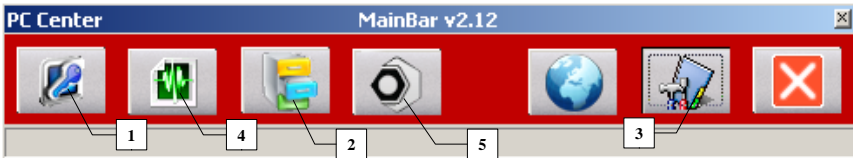

Figure 4.1
All applications are started very easily from the application bar MainBar (Figure 4.1) which appears when the PC Center program is started.
You can choose from two preset webpages - [www.workshopdata.com](http://www.workshopdata.com) - (1) and [www.autodata-online.net](http://www.autodata-online.net) (2). You can also set any webpage of your choice by clicking the Custom item and filling in the first window; or a program by filling in the path to it in the second one. Any changes must be confirmed by clicking the Save button. The button (5) on *Figure 4.1* is used to access this preset webpage or program.